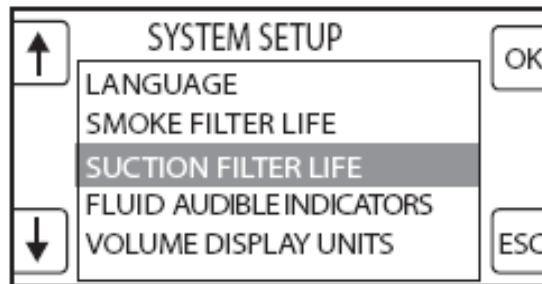

Figure 3: System Setup Screen
5. From the system setup screen, push the buttons next to the arrow icons (on the left side) to highlight the appropriate system setting (see figure 3).